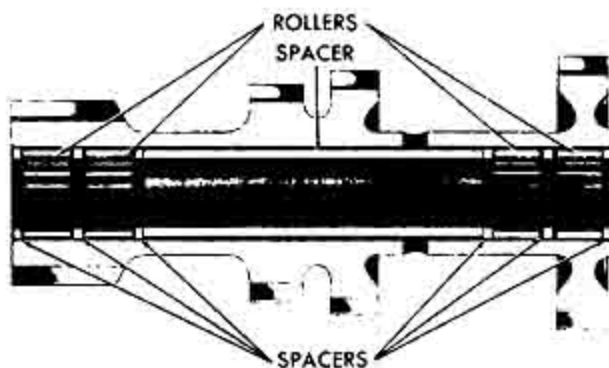

Fig. 10 Cross Section of Counter gear
To disassemble counter gear, remove Loader J 24658 and 112 bearing rollers, six (6) spacers and a tubular spacer will drop out of the counter gear bore (Figure 10).
2. Slide spacer on loader and, using heavy grease to retain rollers, insert twenty eight (28) bearing rollers around loader, install second spacer and insert twenty eight (28) more bearing rollers around the loader. Install third spacer (with grease) to hold bearing rollers in position (Figure 10).